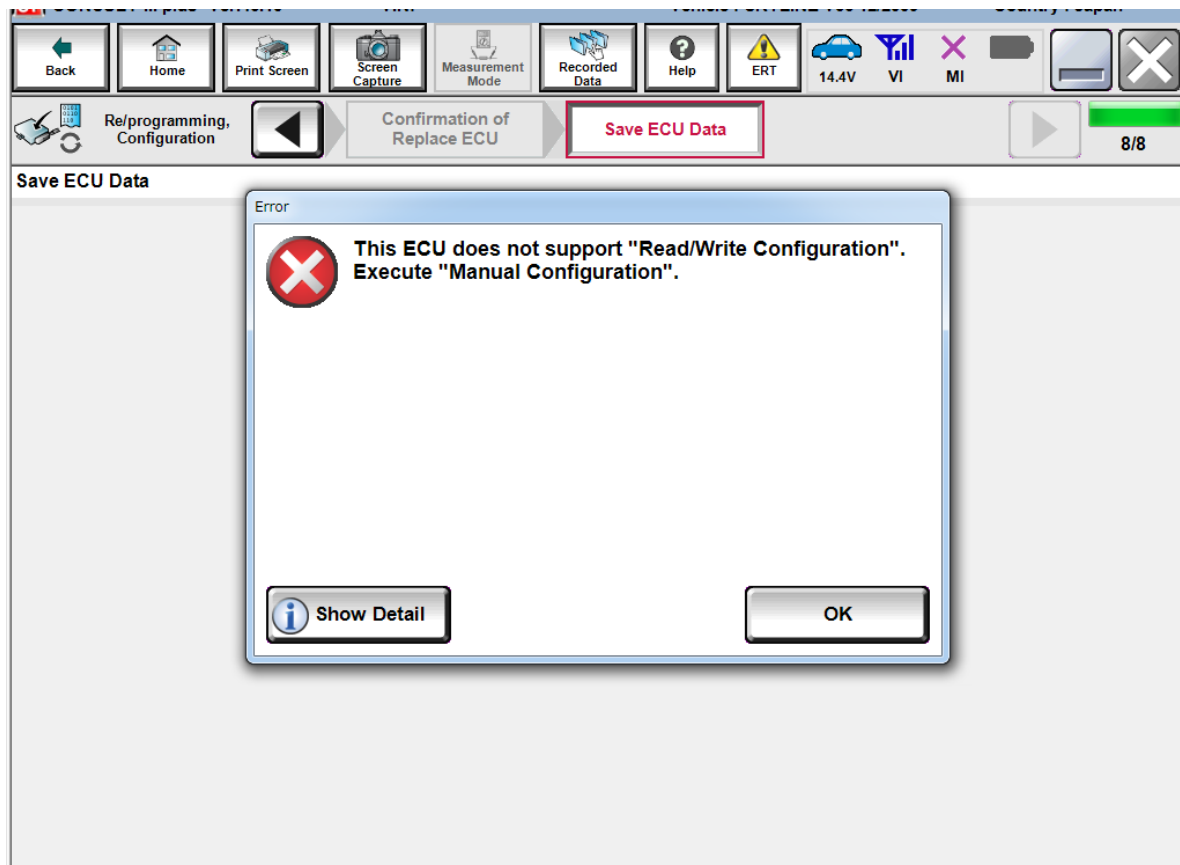

Figure 1
- If your vehicle is not compatible, the C-III plus screen shown in Figure 1 will display when the Read process is attempted.